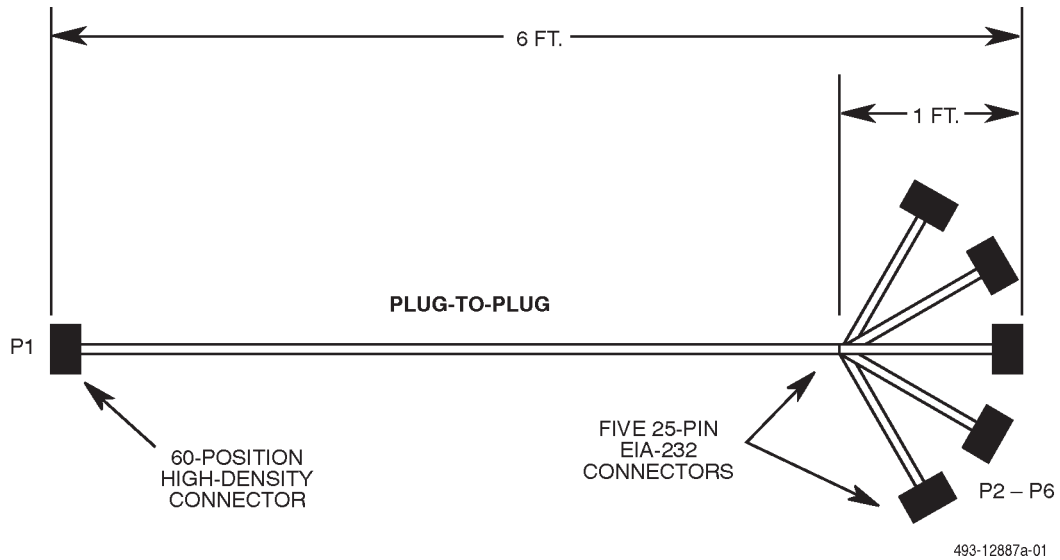

Figure C-2. Digital Bridge Interface Cable (Feature Number 3600-F2-501)
- **Figure C-2** shows the digital bridge interface cable used for non-modular bridging applications; **Table C-2** provides its connector pin assignments.